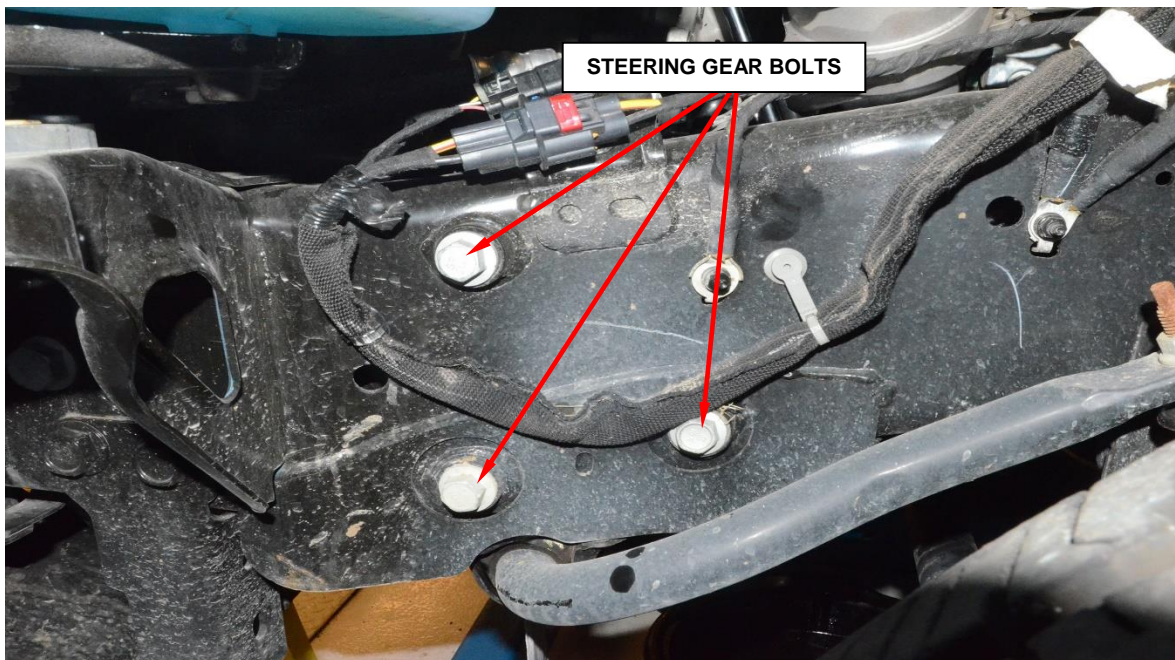

Figure 11 – Steering Gear Mounting Bolts
32. Remove and save the three steering gear bolts and remove the steering gear. (Figure 11) **Return the Steering Gear to the Mopar Core Return Center for core credit.**
1. Position the **NEW** steering gear to the frame rail then install the three steering gear bolts and tighten to 156N·m (115ft. lbs.) (Figure 11).